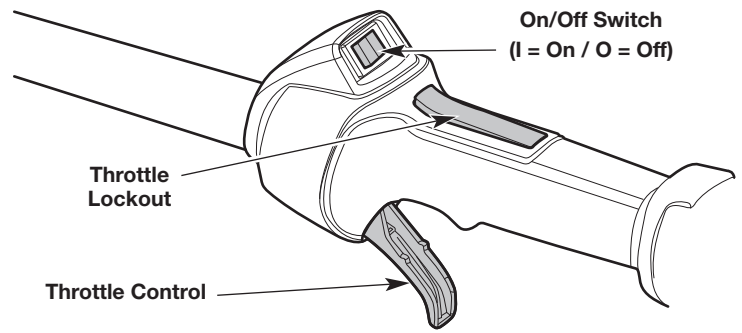

Fig. 13
**NOTE:** There is no need to turn the unit on. The On/Off switch is in the **On (I)** position at all times (Fig. 13).
4. Press and hold the throttle lockout (Fig. 13). Squeeze and hold the throttle control (Fig. 13).
2. Press and hold the On/Off switch in the **Off (O)** position until the engine comes to a complete stop (Fig. 13).